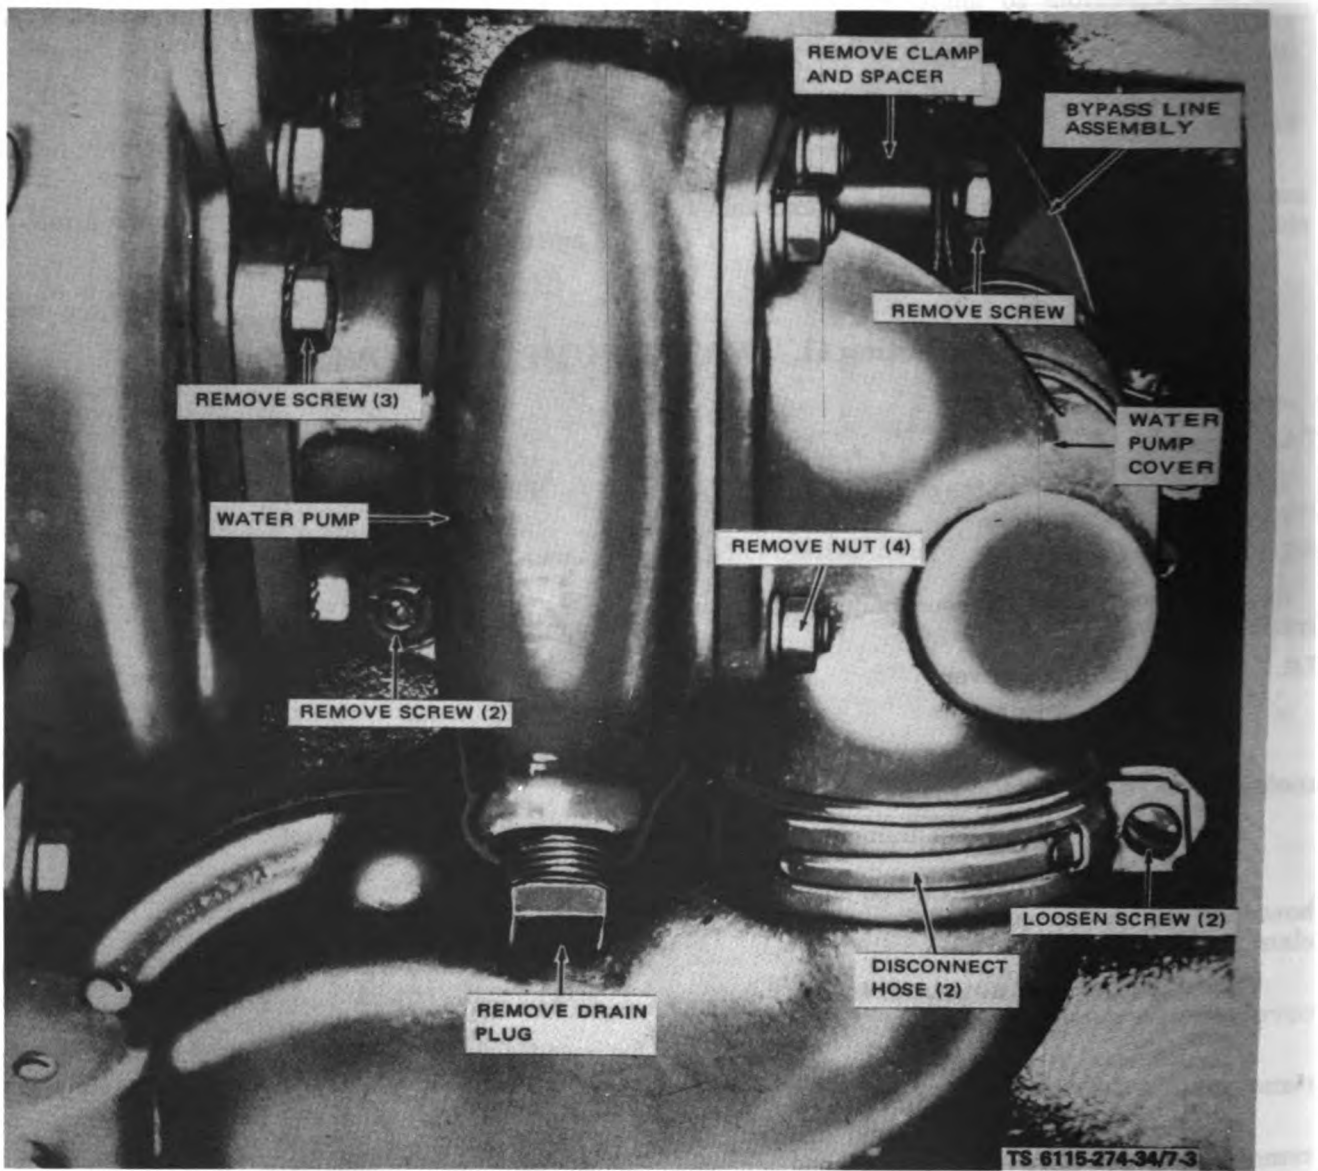
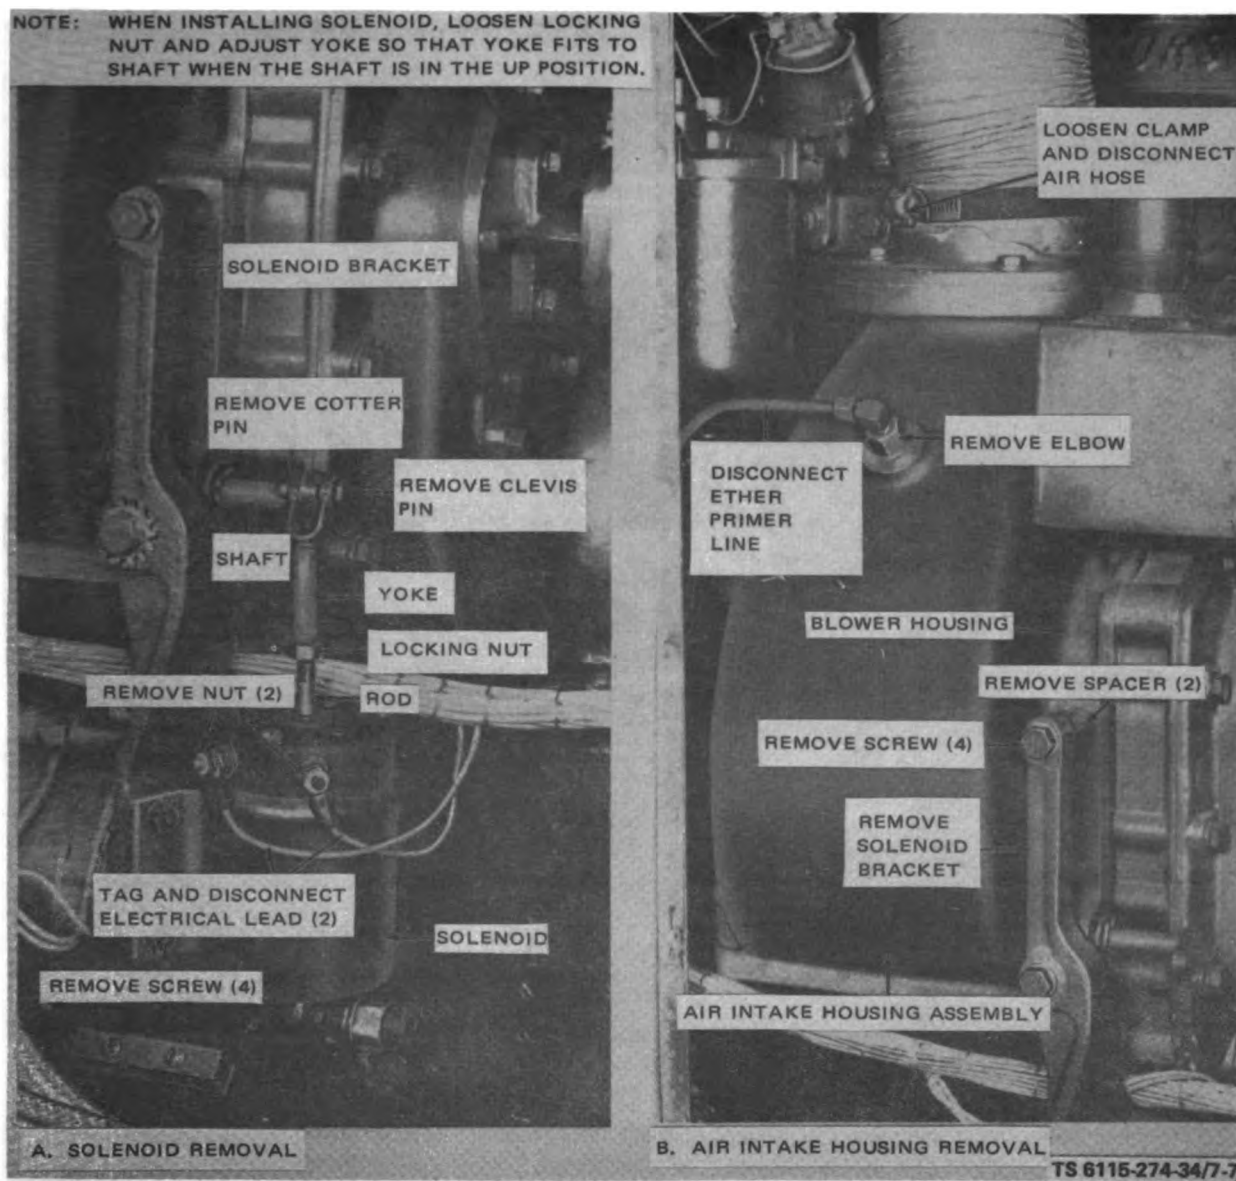

Figure 7-3. Water Pump and Cover, Removal and Installation
Figure 7-7. Air Intake Housing and Hydraulic Tank Removal and Installation
(1) Remove radiator drainplug and drain coolant into suitable container.
(2) Remove water pump drainplug (fig. 7-3).
(3) Loose screws and clamps and disconnect hoses to bypass line and inlet line. Remove screw, clamp and spacer.
(4) Remove four nuts and washers holding cover to water pump. Remove cover and gasket.
(5) Remove two screws and washers and remove outlet seal and retainer.
(6) Remove three screws and washers and remove pump and gasket.
(1) Assemble gasket and cover to pump with four nuts and washers (refer to fig. 7-3).
(2) Attach pump with gasket and three screws and washers.
(3) Attach outlet seal and retainer with two screws and washers.
(4) Connect hoses to bypass line and inlet line with clamps and tighten screws. Attach clamp spacer and tighten screw.
(5) Install pump drainplug.
(6) Install radiator drainplug and fill radiator with proper solution.
- (1) Tag and disconnect electrical leads to solenoid (fig. 7-7).
- (2) Remove clevis pin and cotter pin.
- (3) Remove screws and remove solenoid.
- (4) Remove screws and spacers and remove solenoid bracket.
(5) Remove plug and drain hydraulic tank. Disconnect hydraulic fittings and remove tank.
(6) Loosen clamp and disconnect air hose.
(7) Disconnect ether primer line from air intake housing assembly. Remove screws and remove air intake housing.
(8) Remove radiator drainplug and drain coolant into suitable container.
(9) Remove water pump drainplug (refer to figure 7-3).
(10) Loosen screws and clamps and disconnect hoses to bypass line and inlet line. Remove screw, clamp and spacer.
(11) Remove two screws and washers and remove outlet seal and retainer.
(12) Remove three screws and washers and remove water pump.